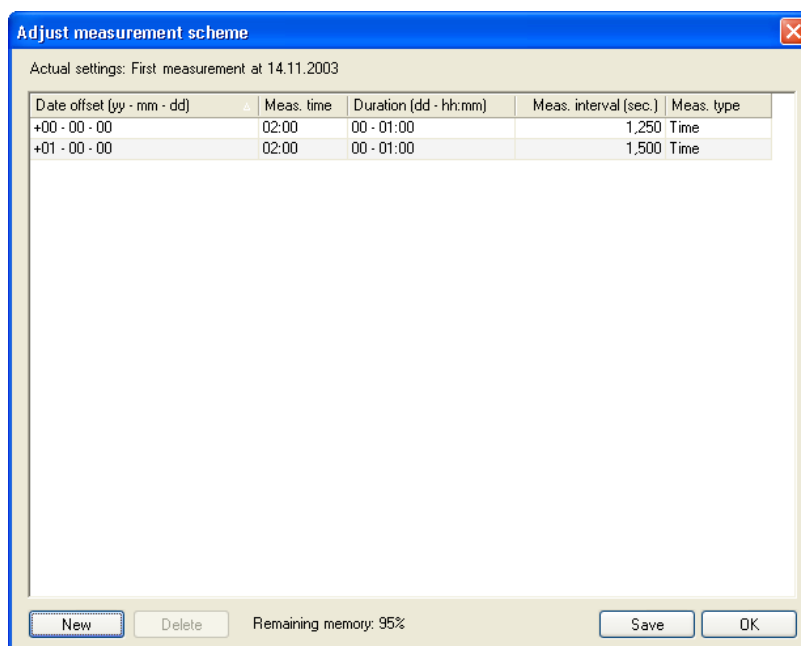

Fig. 21: **Adjust measurement scheme** window
- In the **Adjust measurement scheme** window (fig. 21), click on **New**.
- In the list of measurement time schemes (**Adjust measurement scheme** window, fig. 21) double-click on the entry which you want to change. The **Change entry** window is opened.